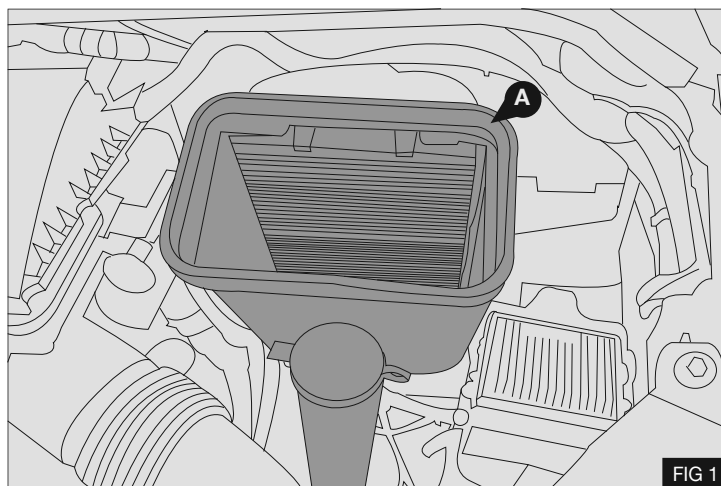

FIG 1
1. Remove and retain the 3 x M6 nuts securing the air box (A), remove the air box - Fig.1
5. Refit the air box ⑤ - Fig.1